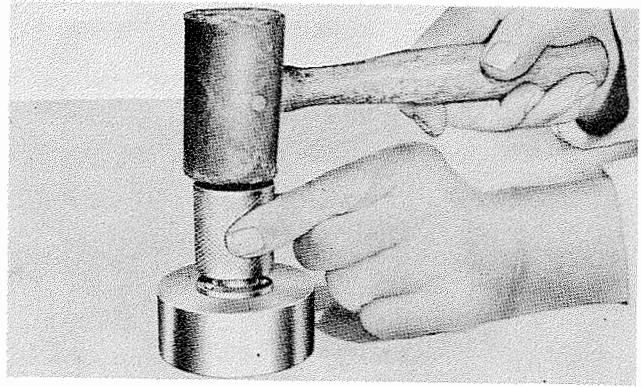

Figure 7-80. Installing Tachometer Drive Shaft Oil Seal in Retainer
- a. When it is necessary to replace an oil seal ring in a retainer, use installing tool 805968. See figure 7-80.